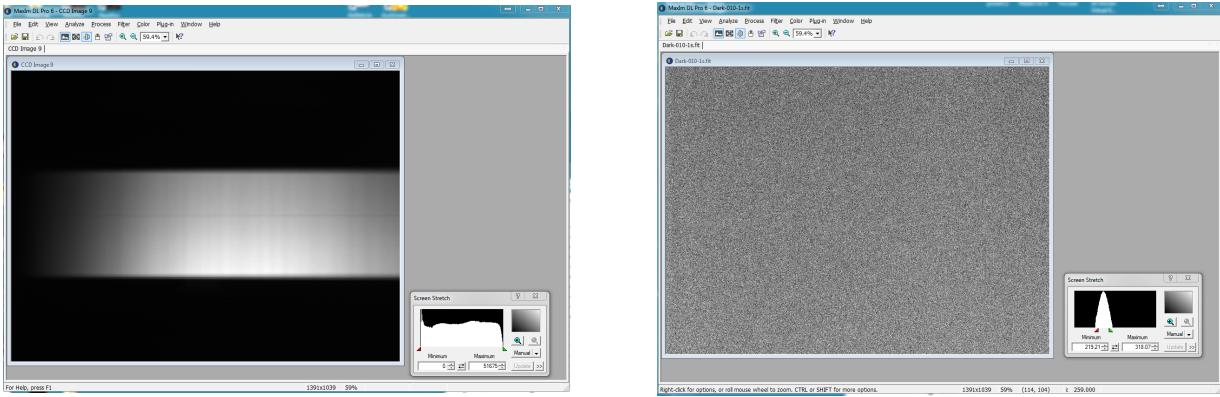

Fig. 12: Typical example images of a 2D flatfield spectrum (left) and dark frame (right).
- Flatfield calibration is done to correct for the variation in gain of the CCD. To make flatfields switch on the flatfield lamp in the EAGLE Manager (make sure the Neon lamp is indeed turned off). Set Frame type to "Flat" in the MaximDL Expose tab (in single exposure mode; if still in autosave mode, the frame type cannot be changed) and take a trial exposure of 10 seconds. When complete the flatfield image is shown in MaximDL. Check the maximum pixel values in the image. The maximum value any pixel can have is 65.536 (2^{16}) and none of the pixel should be saturated. A good value would be approximately 80% of this saturation limit, thus around 50.000. The number of counts per pixel scales directly with exposure time so adjust the exposure time to reach approximately 50.000 counts per pixel max (it does not have to be exact; any value between 45.000 and 55.000 would be fine). Typically the exposure time will be around 30-40 seconds and the final 2D flat field image should look like Figure 12 (left panel). Save the final exposure (e.g., `ffa40s.fit`, uncompressed, 16 bit) in the same directory. Take several more flatfields to increase the signal-to-noise ratio during postprocessing. This can be done using Autosave (change the appropriate field in Autosave to the correct values; i.e., Autosave Filename, Type, Suffix, Exposure, Repeat). When all flatfield exposures are complete, switch off the flatfield lamp in the EAGLE Manager. Make an entry in the obsevation log that you have obtained a sequence of flats.
dome (to avoid light leaks), and expose the CCD using the same exposure time as used for your spectra. Save (in the same directory) as dark[exposure time].a.fit (for example; with [exposure time] the actual exposure time you used), uncompressed, 16 bit. Use Autosave to take a series of dark frames (setting again the appropriate fields correctly). An example image of a dark frame is shown in Figure 12 (right panel).